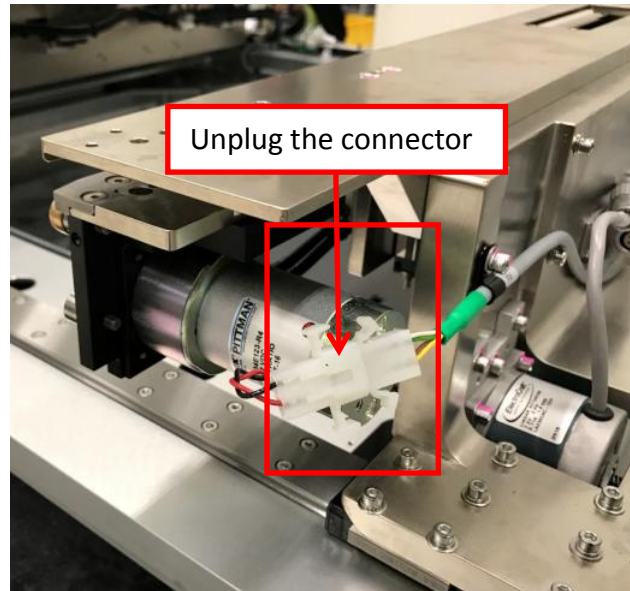

Figure 1 Adjustable Rail Conveyor Motor Connector
2. Unplug Adjustable Rail Conveyor Motor Connector as shown in Figure 1
10. Connect the Conveyor Motor Connector (Refer to Figure 1)